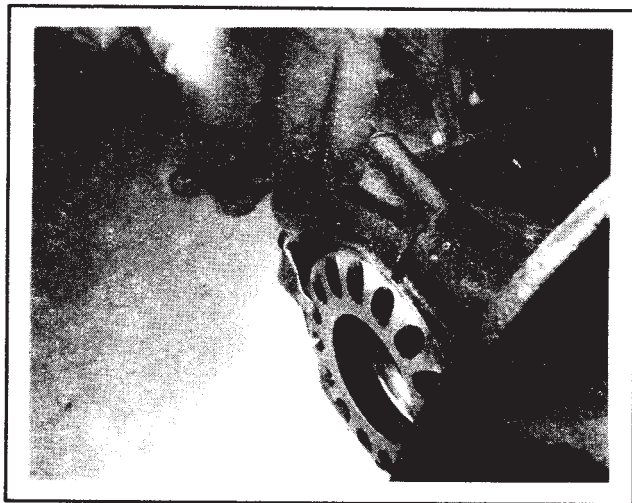

Figure 2
3. Mark everything! Don't touch a bolt until you have done so. The easiest tool to use is a **center punch**. We suggest placing the whole assembly upright (the same position as when in the vehicle), looking at the ring gear end. Mark the carrier and bearing cap on the **ring gear side with one punch mark** and on the **other side with two marks (Figure 2)**. The caps are *not* interchangeable! Also mark each bearing adjuster directly under the lock with this same mark to note its side and rotational position. *This mark is very important to correct re-assembly!*